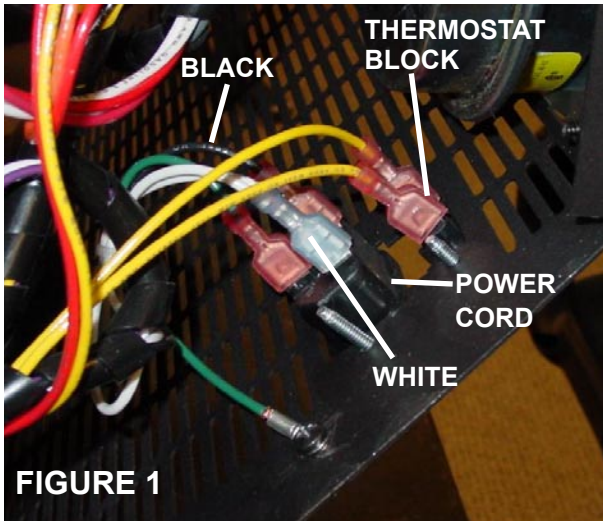

FIGURE 1
- 1) **CHECK FOR POWER AT THE BLACK WIRE FROM THE POWER CORD. (SEE FIG. 1)**
THE FIREPOT IS MADE OF CAST STEEL AND IS DESIGNED WITH AIR INTAKE HOLES THAT SWIRL THE FIRE AND HELP TO REMOVE THE ASH CREATED FROM THE BURNING OF THE PELLET FUEL. THERE IS ALSO A SLOT OR AIR PASSAGE IN THE BOTTOM SIDE OF THE FIREPOT THAT ALLOWS HOT AIR FROM THE IGNITER TO LIGHT THE PELLET FUEL. DURING THE BURN CYCLE PROCESS IN THE FIREPOT, "CLINKER" MATERIAL WILL START TO BUILD-UP. (SEE *FIGURE 1) THE RATE OF THIS BUILD-UP WILL DEPEND ON THE QUALITY OF THE PELLET FUEL BEING USED. OVER TIME THIS BUILD-UP OF CLINKER MATERIAL CAN OBSTRUCT THE AIR PASSAGES AND CAN CAUSE PROBLEMS WITH THE OPERATION OF THE FIREPOT. THIS CAN ALSO CAUSE THE FIREPOT CLEAN OUT DOOR TO BECOME HARD TO PULL IF THE FIREPOT IS NOT CLEANED ON A REGULAR BASIS.